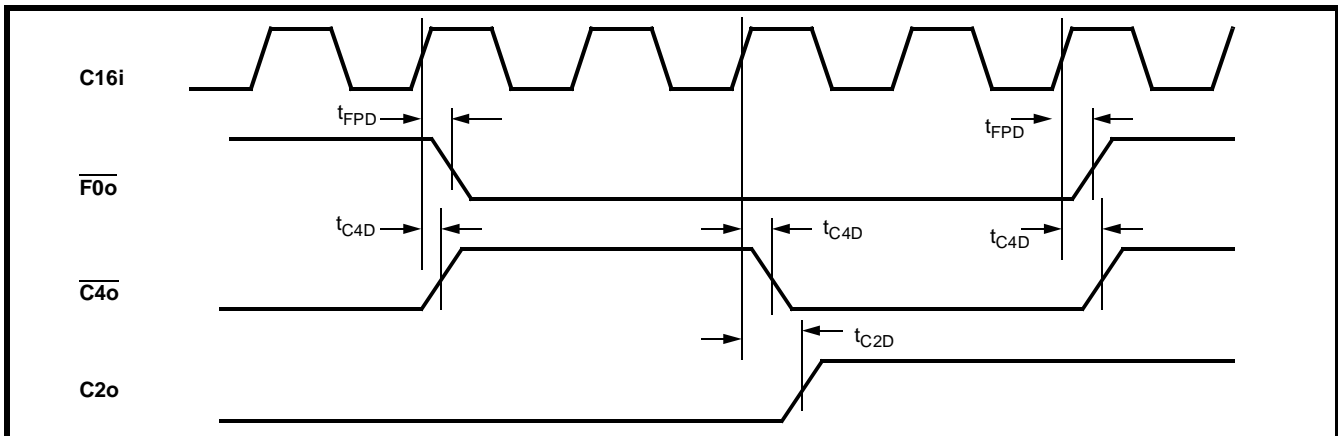

Figure 14 -  $\overline{F0o}$ ,  $\overline{C4o}$  and  $C2o$  Output Clock Timing
**AC Electrical Characteristics† - Output Clocks and Frame Pulse Timing (See Figure 14) -**